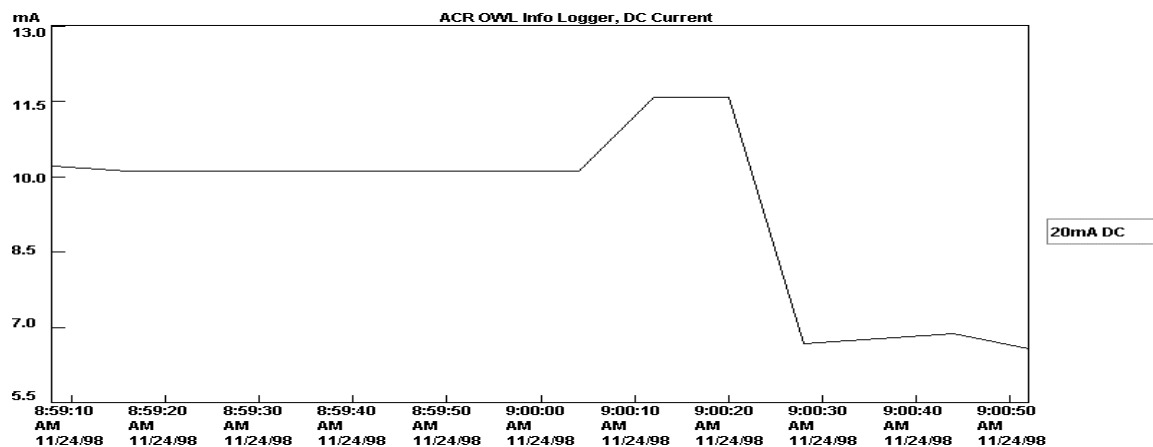

Figure 2. A TrendReader® trending graph for the OWL.
**Data Analysis.** TrendReader® (on a PC) will automatically graph the downloaded data in the format of Figure 2 and put data in a table. Comma Separated Value (CSV) files can also be generated from within the software for use by spreadsheets.